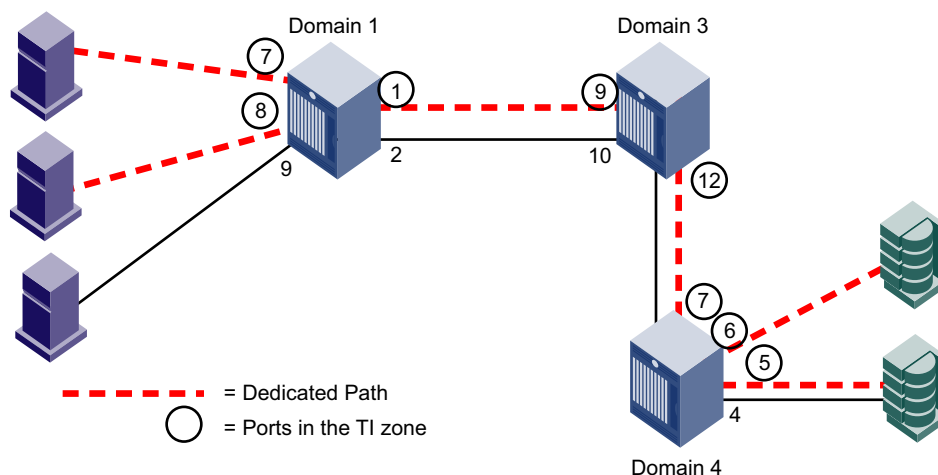

FIGURE 35 Traffic Isolation zone creating a dedicated path through the fabric
Figure 35 shows a fabric with a TI zone consisting of the following:
In Figure 35, all traffic entering Domain 1 from N_Ports 7 and 8 is routed through E_Port 1. Similarly, traffic entering Domain 3 from E_Port 9 is routed to E_Port 12, and traffic entering Domain 4 from E_Port 7 is routed to the devices through N_Ports 5 and 6. Traffic coming from other ports in Domain 1 would *not* use E_Port 1, but would use E_Port 2 instead.
For example, in Figure 35 on page 380, if the dedicated ISL between Domain 1 and Domain 3 goes offline, then the following occurs, depending on the failover option:
- This feature is intended for use in simple linear fabric configurations, such as that shown in Figure 35 on page 380.